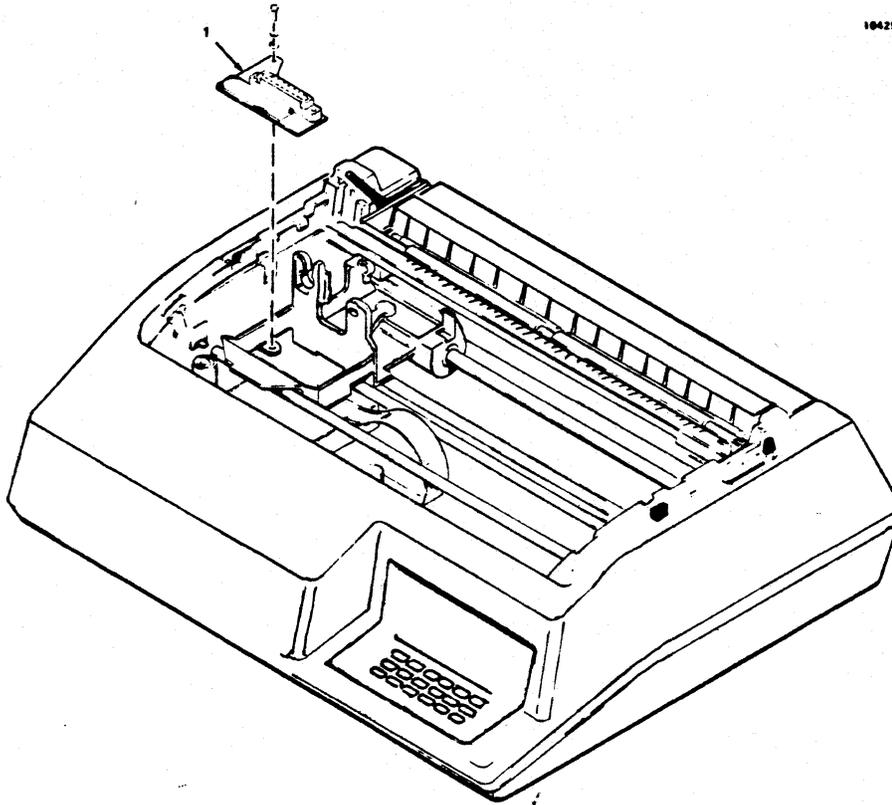

Figure 5-4. REMOVAL/REPLACEMENT, HEAD ADAPTER PCB
The Head Adapter pcb, item 1 of Figure 5-4, is attached to the carriage assembly and is removed using a Phillips head screwdriver. To remove the Head adapter pcb, refer to Figure 5-4 and perform the following steps: